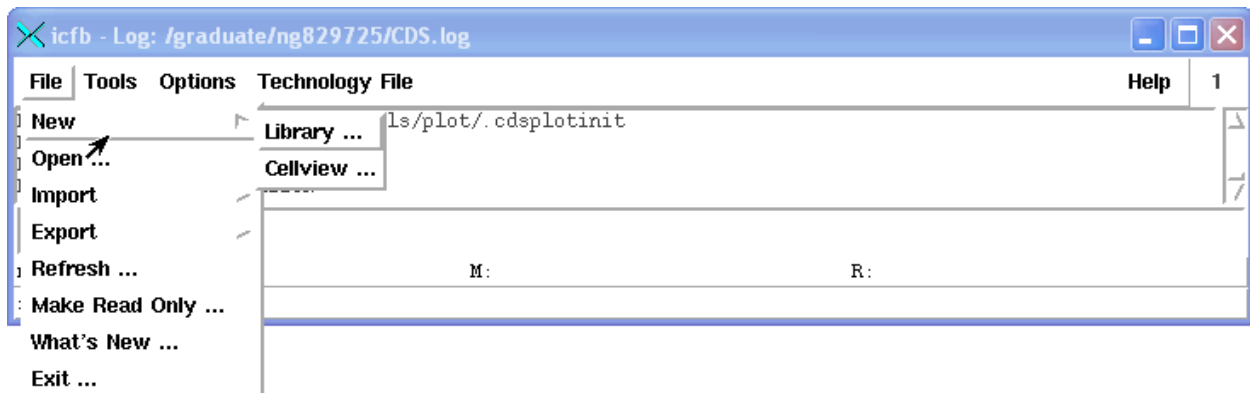

Figure 14: Where to go for the new project directory.
1. Go to the *icfb* window (or library manager window), and go to: *File... New...Library* (Figure 14). A pop-up window should appear.